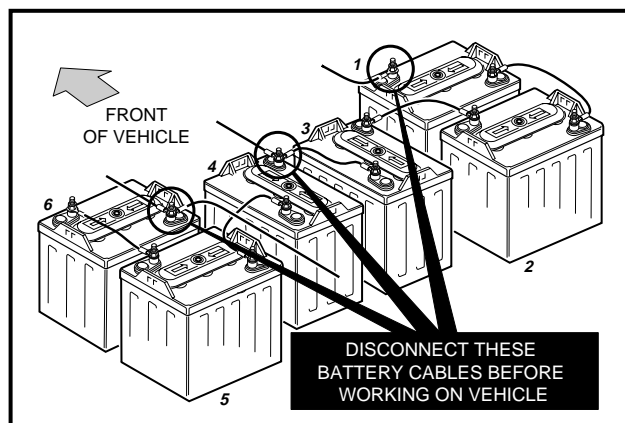
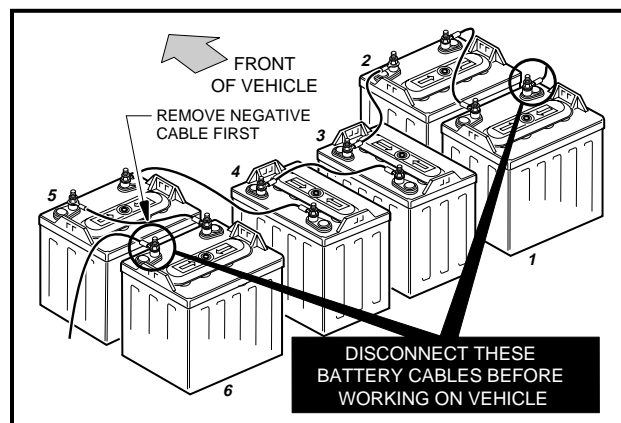

Figure 1 V-Glide 36-Volt Vehicle
Figure 2 PowerDrive System 48 and PowerDrive Plus Vehicles
- TO AVOID UNINTENTIONALLY STARTING THE VEHICLE, DISCONNECT THE BATTERIES AS SHOWN (**FIGURE 1 AND FIGURE 2, PAGE 8**). **ON POWERDRIVE SYSTEM 48 AND POWERDRIVE PLUS VEHICLES**, DISCHARGE THE CONTROLLER AS FOLLOWS: